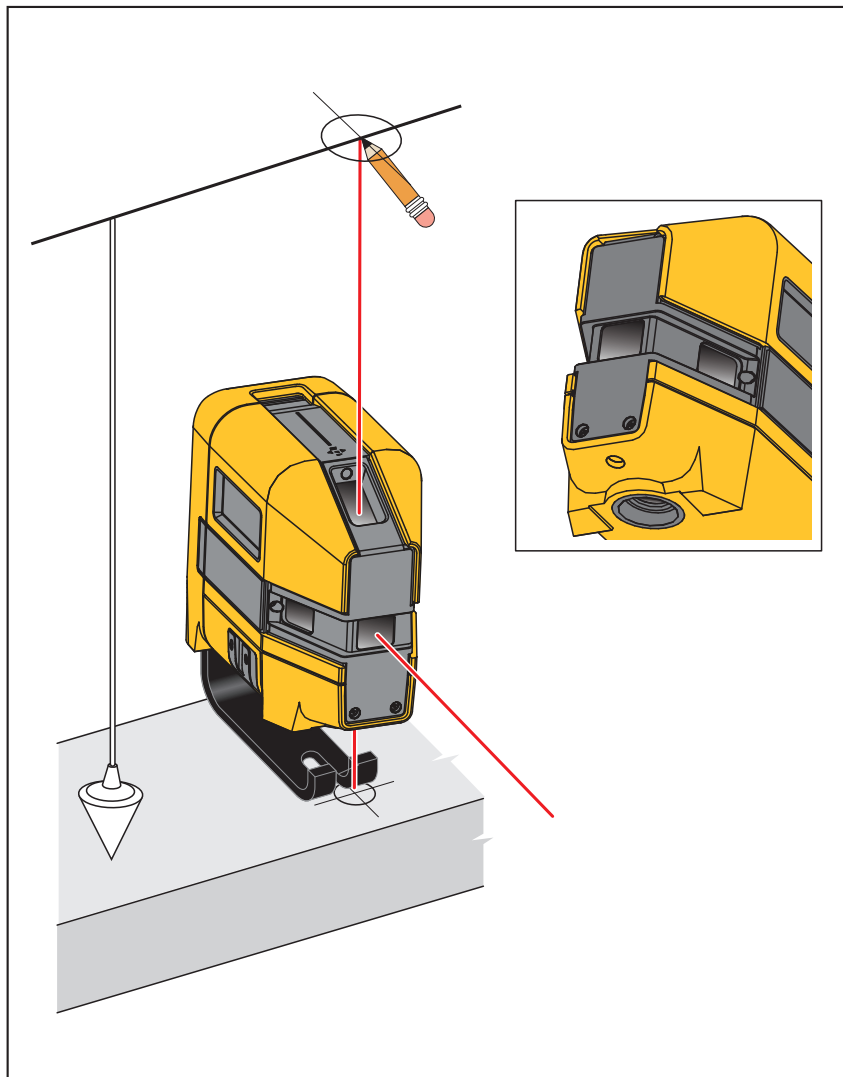

Figure 4. New Plumb Mark
2. Center the down laser over the cross mark. See Figure 4.